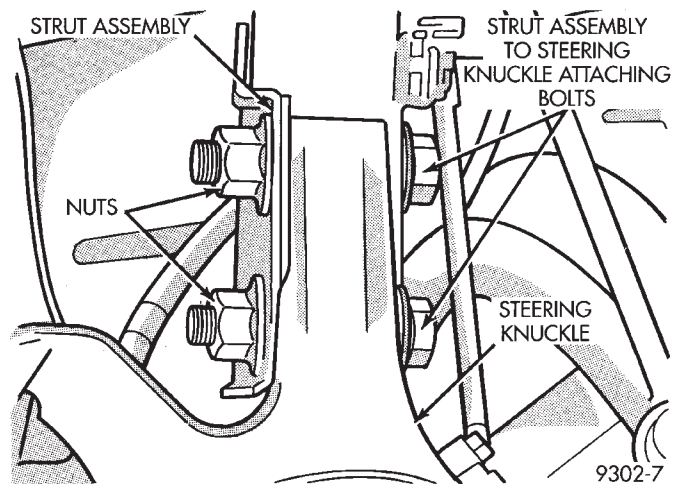

Fig. 6 Strut Assembly To Steering Knuckle Attaching Bolts
(8) Remove the strut assembly to steering knuckle attaching bolts (Fig. 6).
(9) Remove the top of the steering knuckle from the strut assembly.